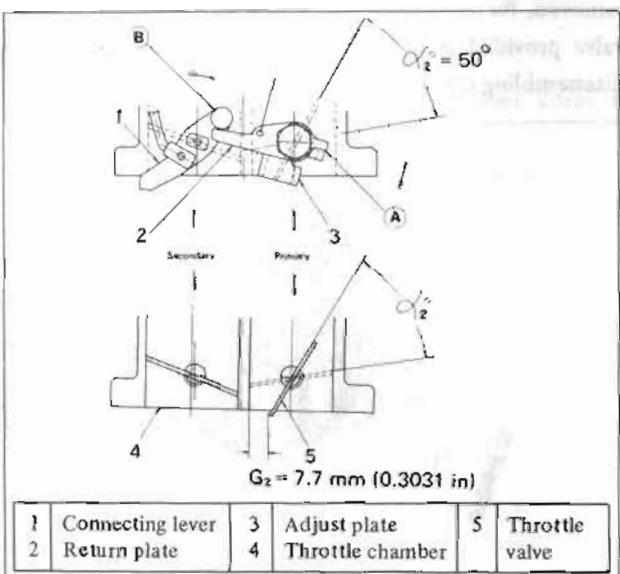

Fig. EF-22 Adjustment of interlock opening of throttle valve
Figure EF-22 show the primary throttle valve opened α_2° . When the adjust plate fixed to the primary throttle valve is open α_2° , it comes to contact with the connecting lever at ①. When the throttle valve is further opened, the point ②, where the connecting lever is in contact with the stopper, is detached, permitting the secondary system to start actuating.